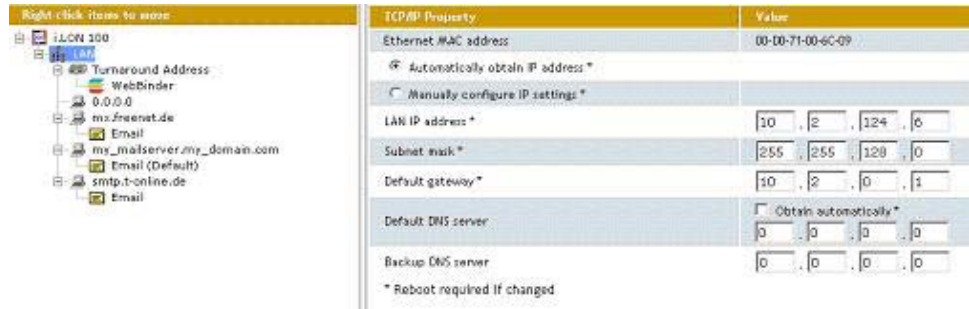

Figure 2.5 Setup – LAN/WAN Web Page
- Point your mouse cursor to **Setup**, and then select **TCP/IP** from the dropdown menu. The **Setup - LAN/WAN** Web page will open with the **LAN** connection selected in the tree, as shown in Figure 2.5.